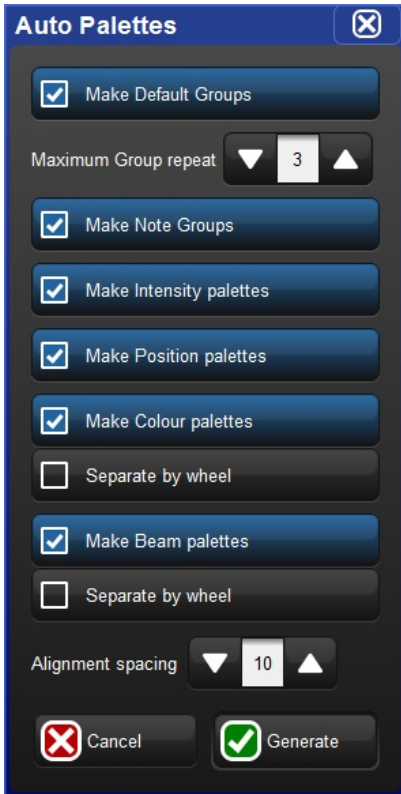

Figure 5.11. The Auto Palettes window
2. Click on the Auto Palettes button (located in the toolbar at the top of the Fixture window) and select from the options in the Auto Palettes window; see *Figure 5.11, “The Auto Palettes window”*.